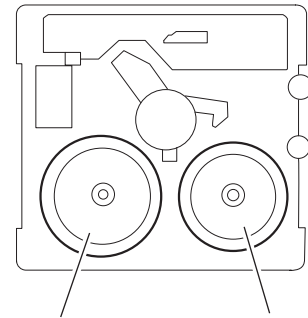

Fig.8
3.1.4 Removing the power amplifier board and heat sink (See Fig.8~10)
3.2.4 Removing the flywheel (See Fig.8, 9)